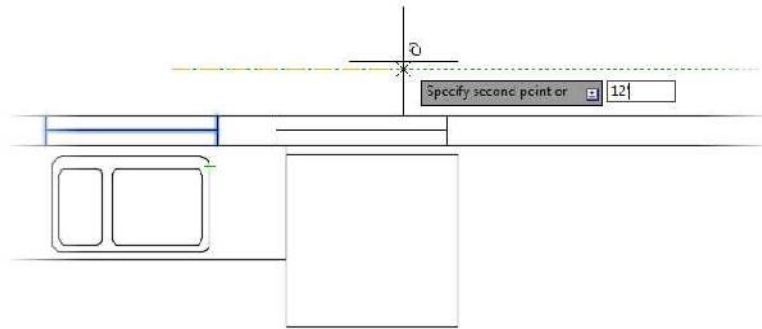

FIGURE 7.37: Copying the kitchen window 12' to the right
6. At the Specify second point or <use first point as displacement>: prompt, enter **12' ↵ (3659 ↵)**, as shown in Figure 7.37, and press ↵ again to terminate the COPY command.